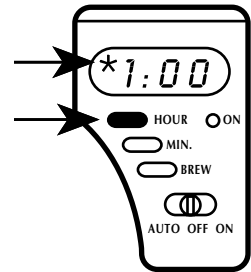

FIGURE 3
**NOTE:** *The LED in the upper-left corner of the Display indicates the P.M. hours.* (See Figure 3.)